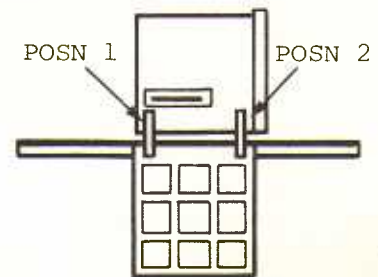
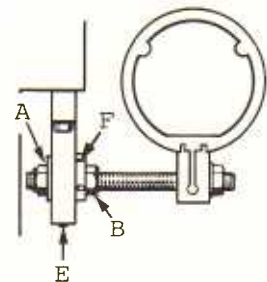
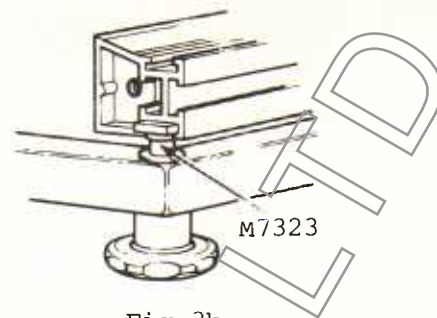

Fig. 3L
Fig. 3h
Fig.3k
5. The tee clamp assy SM1551 has now to be set so that the sliding table is at the correct height to the machine table. Move the sliding table along slide rail until it is in line with the main table (Fig 3L). Place a straight edge across the main table and over the inboard end of the sliding table (posn 1), slacken nut 'A' & socket set screw 'E' (Fig 3h), rotate cam 'F' to raise or lower table to be in line with main table. Retighten nut 'A' & screw 'E'. Repeat this operation at the front edge of the main table (posn 2).
7. Fit the cross cut fence as shown in Fig 3k. Slide 2 off location pins M7323 into tee slot on lower face of cross cut fence, fit 1 off .015" shim washer onto each location pin and then lower pins through reamed holes at front of table (a range of holes are drilled in the table for cutting at 0°, 15°, 30° & 45° from the front or rear fence positions). To lock the fence in position, fit and tighten the two M10 locking knobs.
8. The sliding table motion must be set parallel to the line of the saw blade cut, adjustment may be necessary to jack one end of the long table rail towards or away from the saw blade. The mitre gauge slots in the main table may be used as datums for checking alignment. Move the sliding table along the slide rail until it is in line with the main table (Fig 3L). Undo the cross cut fence locking knobs (Fig 3k) and slide fence inwards until the end is in line with one side of the mitre gauge slot and retighten the locking knobs. Now move the sliding table forwards checking that the fence remains in line with the slot, if not adjustment must be made to the slide rail as follows:-Slacken off lock nut 'A' (Fig 3h) at posn 1 on sliding table (Fig 3L) and adjust nut 'B' in or out until the end of the fence runs parallel with the mitre gauge slot. Retighten nut 'A', check squareness and readjust if necessary.